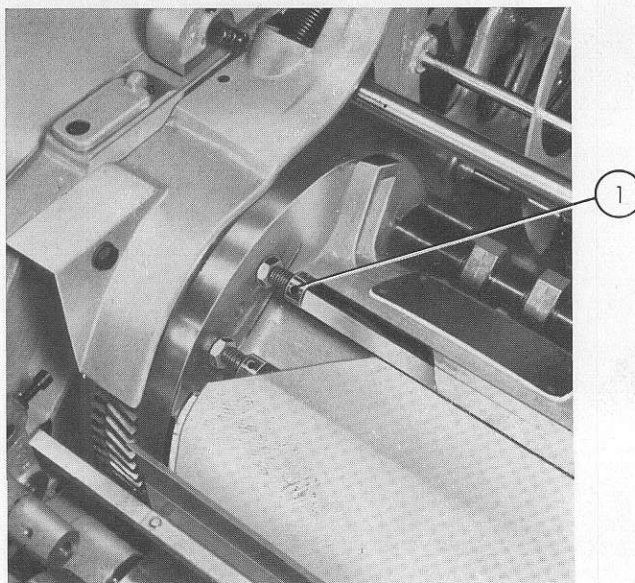

Fig. 12
**Packing tension bar** can be taken down after loosening coupling 1 (fig. 12).